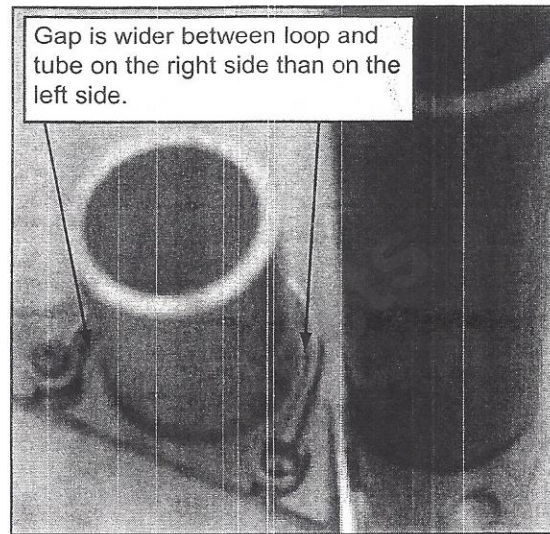

Figure 19
- The wire loops must have the same gap all the way around the tube or the scraper rods will hang up when trying to clean the tube. After the rods are secured in the stove, check to make sure that they slide freely. If not, make adjustments to the wire loops by using a straight edge screw driver between the tube and wire loop and pry it from side to side until the loop is an equal distance from the tube all the way around. Adjustments may be needed on only one or all of the wire loops. **Figures 19, 20 & 21**.